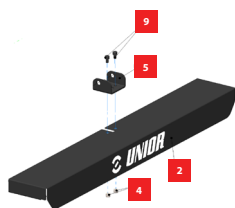

Figure 1
Assembly of the upper light profile bracket (pos.5) onto the light bracket (pos.2) with 2x screw M5x8 (pos.9) and 2x nut M5 (pos.4). See figure 1